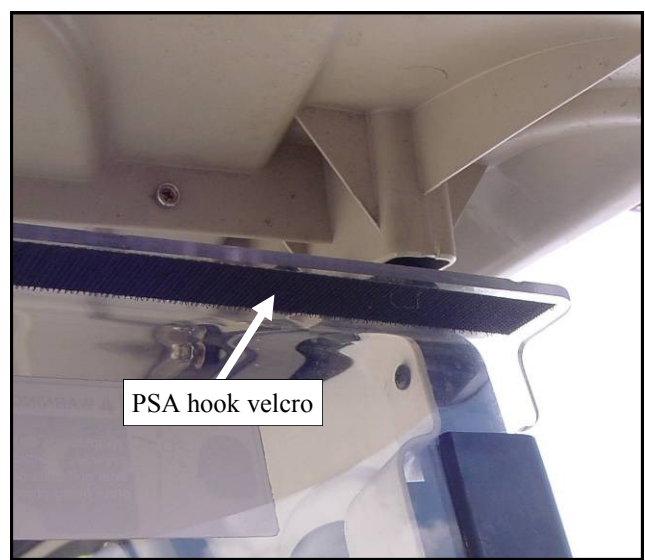

Fig. 3.6 (view from front)
3.6 Per fig. 3.6, install 1" wide PSA hook velcro to the under side of the upper windshield where shown (near the bend). Cover the full width from left to right. Ref.: 40" long.